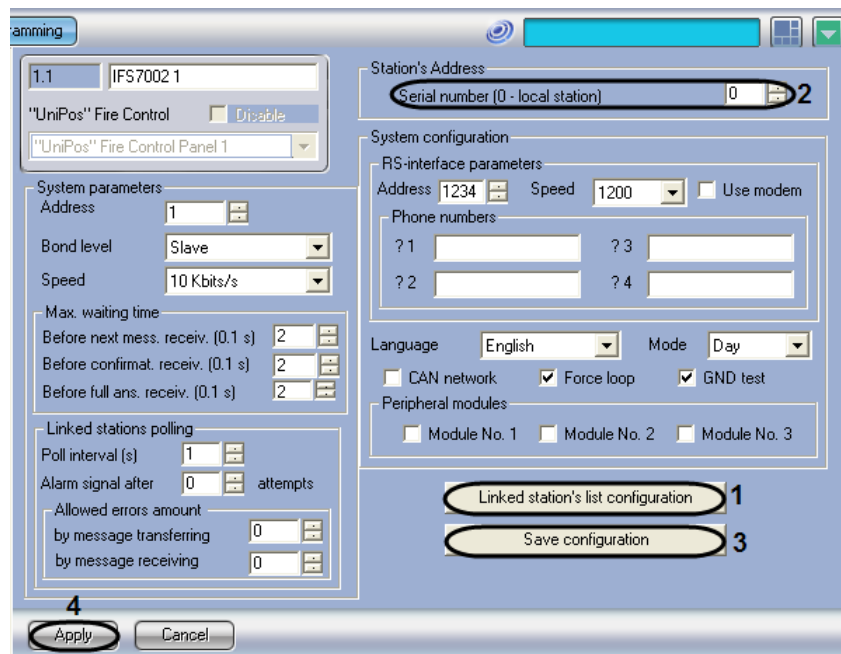

Fig. 3.3—5 Configuring the CAN network stations list
1. Go to the settings panel of the “IFS7002” object (Fig. 3.3—5).
2. Click the “Linked station's list configuration” button (see Fig. 3.3—5, 1).